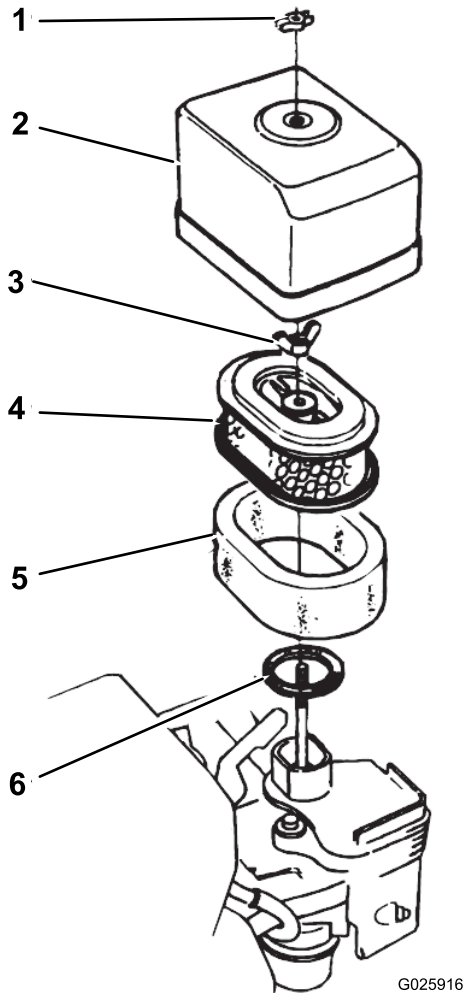

Figure 31
2. Remove the wing nut securing the air-cleaner cover to the air cleaner, and remove the cover (Figure 31).
4. Remove the wing nut from the air filter, and remove the filter (Figure 31).
5. Remove the foam filter from the paper filter (Figure 31).